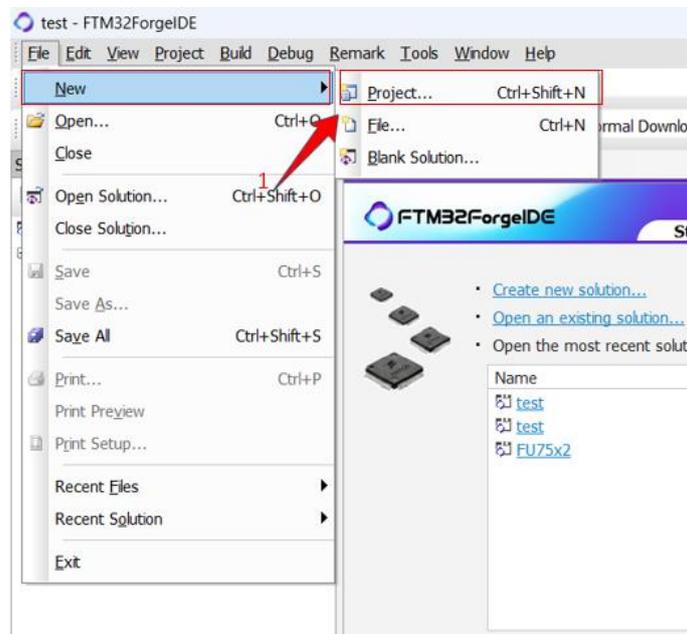

Figure 2-4
Step 1: Select "File" → "New" → "Project" in the upper left corner, as shown in Figure 2-4.